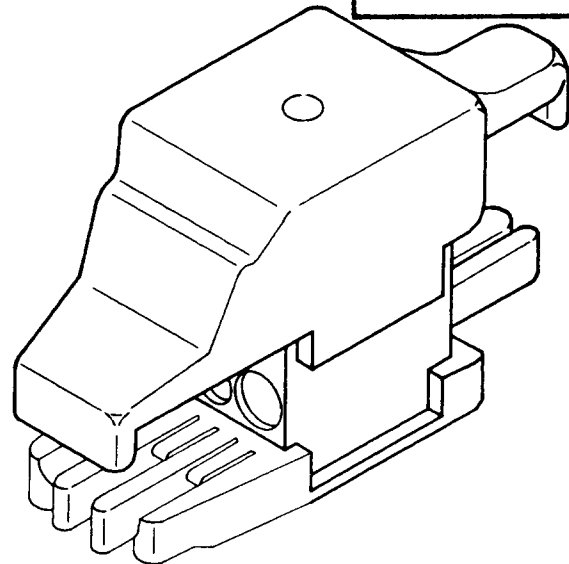

Fig. 1—700-3B, 3BR, 3BT, or 3BRT Connector
2.01 **700-3B, 3BR, 3BT, and 3BRT:** The 700-type connectors (Fig. 1) consist of a plastic body and cap, and a metallic insert for splicing three wires or bridging up to two wires to one through-wire. The body has three holes for insertion of conductors and a removable sidewall to open a through-slot for placing the through-wire when bridge-tap splicing. Flexible fingers position conductors and provide strain relief after the connector is pressed together. The cap houses the metallic insert and a sticky compound for sealing the connector after it is pressed. A test point for contacting the conductors without piercing the conductor insulation is also provided in the cap. These connectors are arranged to join any combination of aluminum, copper, or copper steel 17- through 26-American Wire Gauge (AWG) conductors. The connectors are provided in boxes of 300 for use with an E-connector presser, AT-8597.